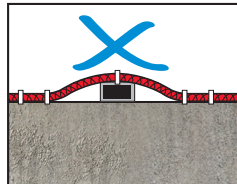

fig. 3
- The Heat-shrink Sleeve is installed centrally over the connection between the PVC hose and SikaFuko® ECO-1 and heated with a hot air gun (Leister Triac S or similar). The sleeve shrinks and firmly holds the connection together. **(fig. 3)**
- The injection hose shall not be fastened to the reinforcement bars. The injection hose must lay flat on the concrete surface throughout and be routed in such a way that it is not buckled or constricted. (**fig. 3**)